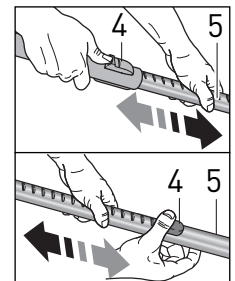

Figure 4
Adjust the telescopic tube (5) to the correct height by pushing the slide button (4, figure 4) and gently pulling the tube out to lengthen, or pushing it in to shorten. Release the slide button (4) to lock the tube to the adjusted height.